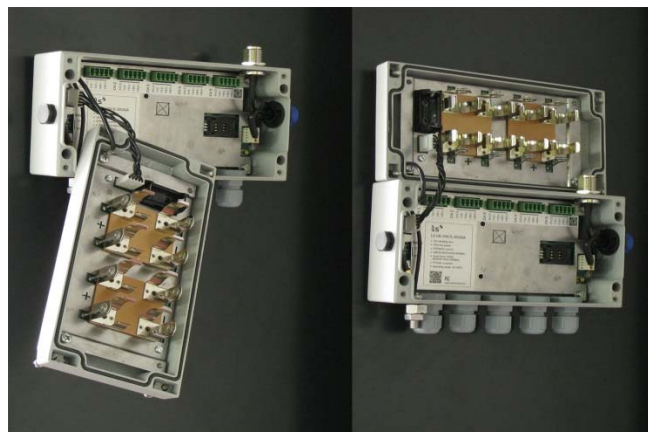

Figure 1: View of the recommended positions to open the datalogger.
- Open the datalogger (using a 2.5 mm Allen wrench) following the recommended positions (Figure 1) in order to avoid damaging the lateral gore valve. The batteries are inserted onto the cover, so be careful not to snap the cable between the cover and the main board.